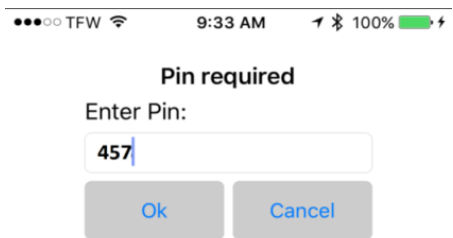

Figure 5: Lumic Linker App PIN Entry
5. If this is your first time connecting, the phone/computer will ask for the PIN received in Step 1. Enter the PIN and select “OK”, shown in Figure 5.